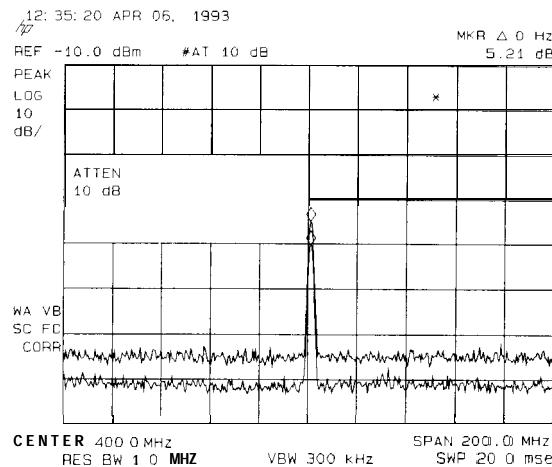

Figure 3-22. RF Attenuation of 10 dB
5. Next, increase the RF attenuation by 10 dB: press **[AMPLITUDE]**, **ATTEN AUTO MAN**, and the step-up key (**↑**) once. See Figure 3-22.
Note When the source signal amplitude is changed between trace A and trace B and there is a resulting change in the distortion product, this is shown by a change in the marker amplitude (marker-delta value). An example of the marker-delta value produced by a change in the distortion product is shown in Figure 3-22. A change in the distortion product is indicative of high-level input signals causing circuit overload conditions and producing distortion. This distortion is a function of the internal hardware of the analyzer. The input signals must be attenuated to eliminate the interference caused by the internal distortion.